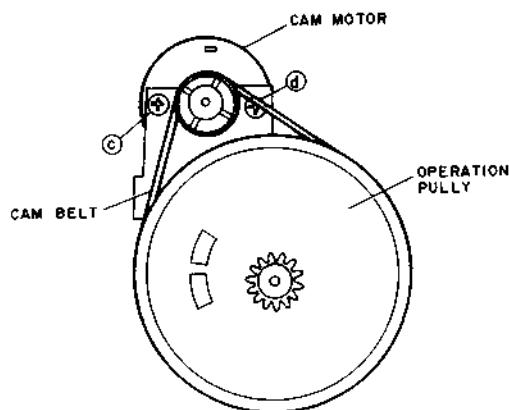

Fig. 4-8
- 5) Remove cam motor securing screws **(c)** and **(d)**. (See Fig. 4-8.)